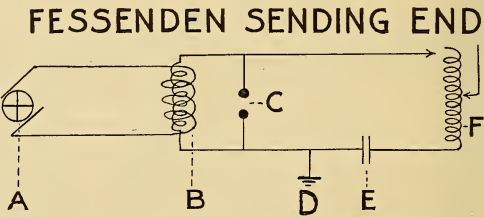

FIG. 13.
less telegraphy. He has done other noteworthy work as well, but particularly with receiving ends. The operation and construction of the detector will be taken up in a later issue. The plan of the Fessenden sending end is shown in Fig. 13 and consists of the transformer (B), which charges the oscillating circuit, the spark gap (C), condenser (E), inductance helix and aerial (F), and ground (D).